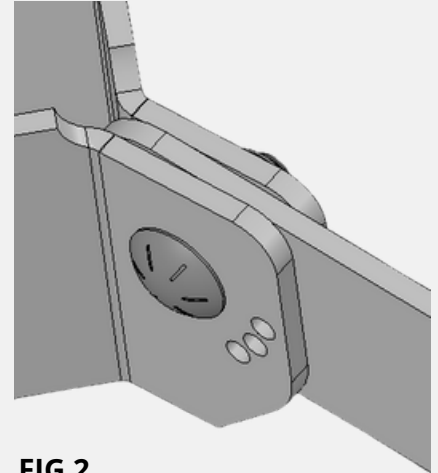

FIG 2.
3. Insert 1/2" x 1-1/2" Carriage Bolt through the Base and Leg, tighten to secure the Leg, but do not overtighten as the Leg should rotate freely, as Shown in Fig. 2